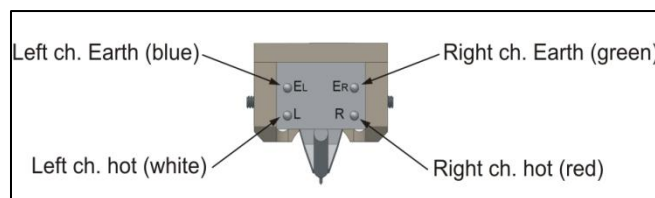

Fig. 4 Arrangement of output terminals (rear view)
- g) The output terminals are arranged as shown in Fig. 4. Insert the output terminals of the cartridge in the lead tips of the head shell. The leads are colored or coded for identification. Make the correct connections.